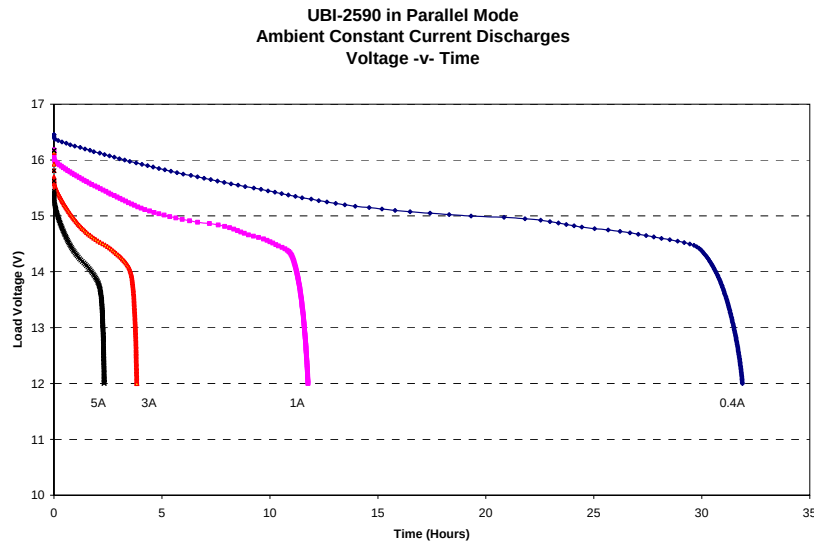

Figure 4
- 11.2. Parallel Mode (16.4v) Ambient Constant Current Discharges Voltage -v- Time (Figure 4)